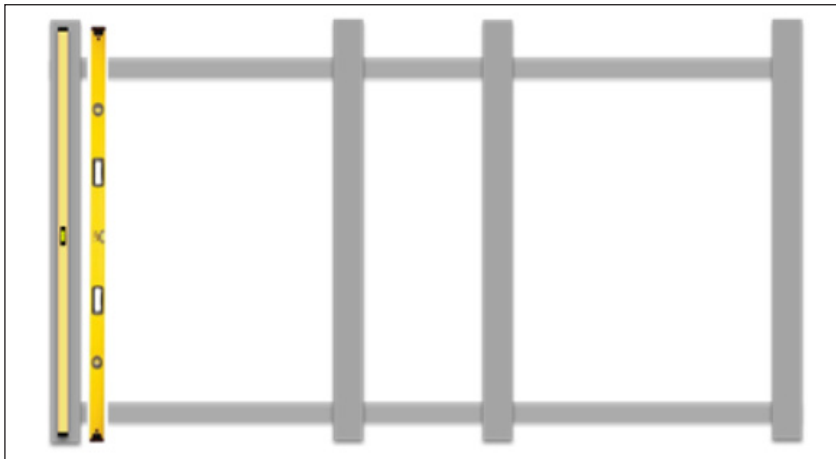

Figure 3: Verify Level & Plumb Vertical Tubes (Front View)
2. Verify the vertical tubes are level and plumb. Refer to **Figure 3**.